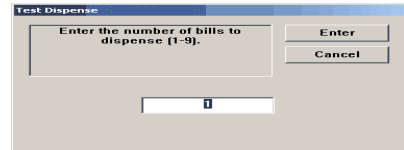

Figure 5. Enter # of notes.
- c. Select the **Test Dispense** option. Select cassette “A”. A prompt appears asking how many notes to dispense. (Figure 5) The Test Dispense operation will start.